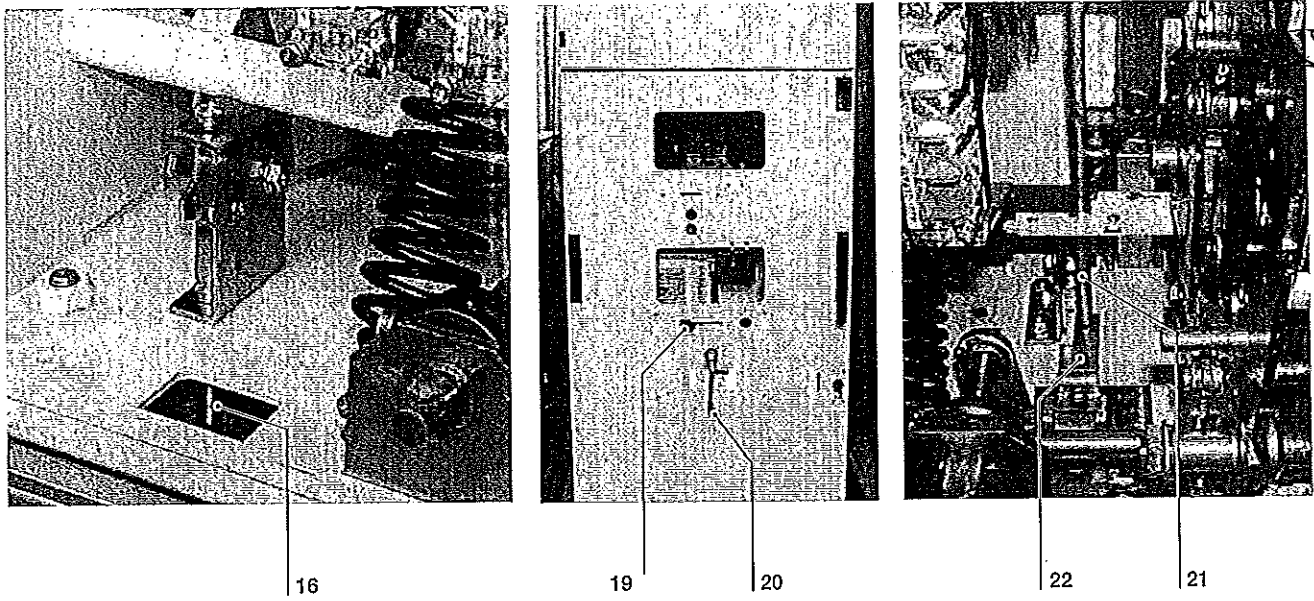

Fig. 5c
The circuit-breaker is completed with the isolating contacts (8). The withdrawable circuit-breaker is fitted with special locks, described below (see fig. 5c - 5d).
With the circuit-breaker closed, the feeler pin (16 - fig. 5c) prevents the shutter sliding (19 - fig. 5c) and therefore insertion of the lever (20 - fig. 5c) for traverse of the apparatus.
When the plug is not inserted in the socket (13), the stem (21 - fig. 5c) prevents the plate (22 - fig. 5c) lifting and traverse of the apparatus.